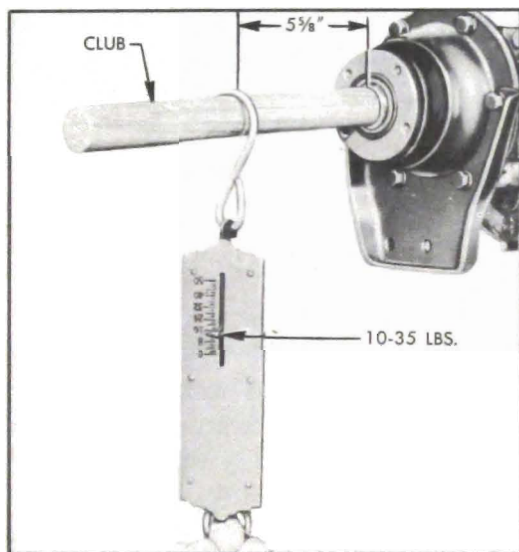

Figure 4-24—Checking Torque Ball Drag
13. Attach spring scale to club at groove located $5\frac{5}{8}$ " from end of universal joint and test pull required to move torque ball when all bolts are tight. See figure 4-24. A drag of 10 to 35 pounds should be obtained. If torque ball is too tight or too loose, loosen bolts and repeat the centering and tightening operation, then recheck drag with club and spring scale.
Final adjustment must provide a drag of 10 to 35 pounds on club with a $5\frac{5}{8}$ " leverage. See figure 4-24.